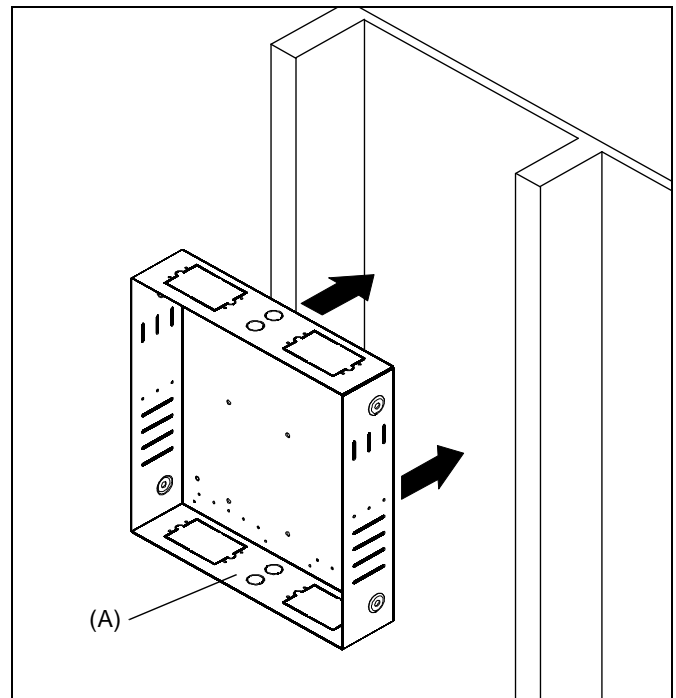

Figure 2
1. Insert PAC516 (A) into opening. (See Figure 2)